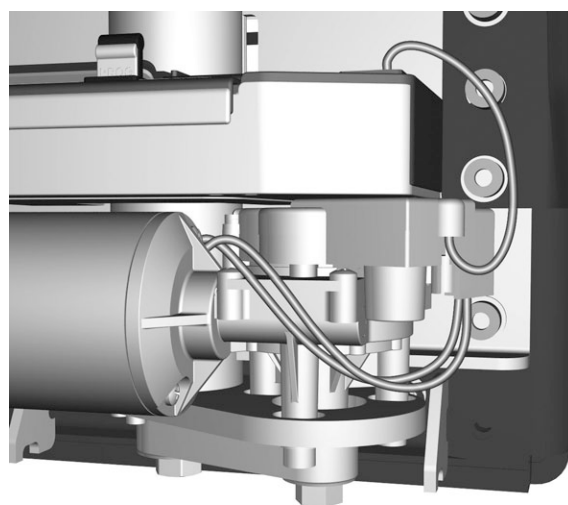

Figure 117. Connect the motor cable to the ICS-Master Module.
9. Connect the motor cable to the ICS-Master Module. See fig. 117.